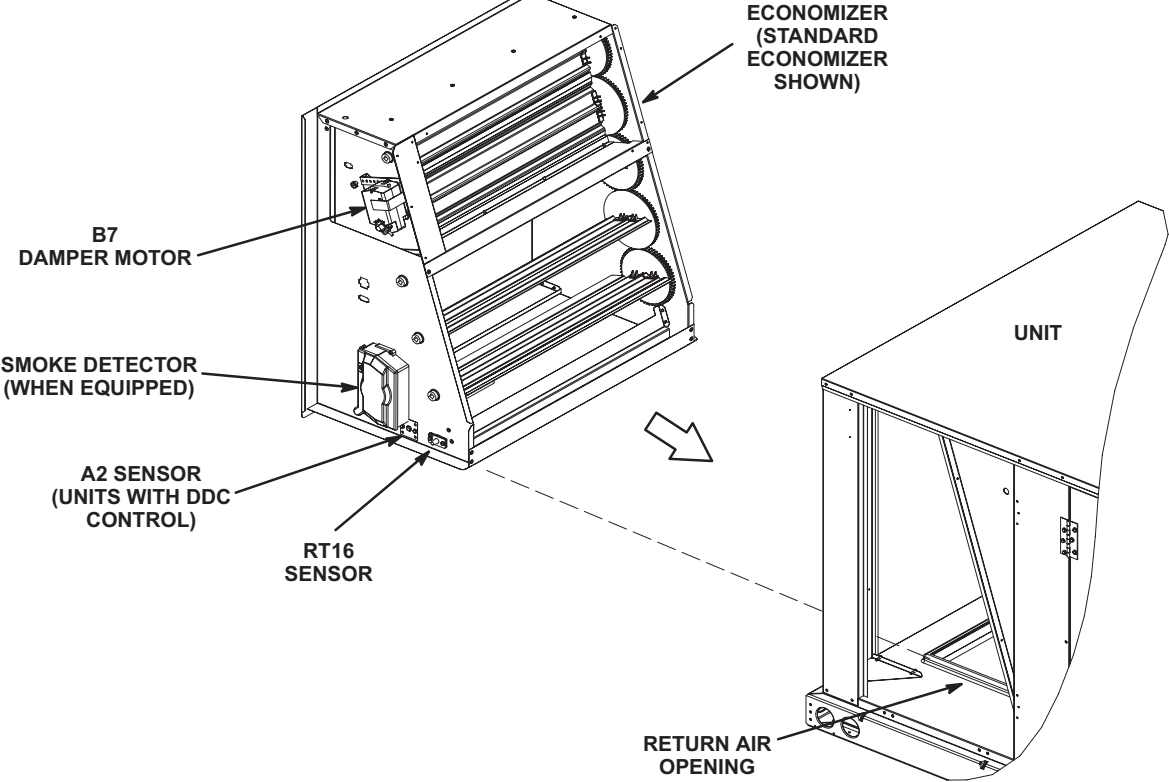

FIGURE 4
- 5 - Fit opening in bottom of damper assembly over the return air opening. See FIGURE 4.
- 6 - Install retained sensors in the side of the economizer. See FIGURE 4.